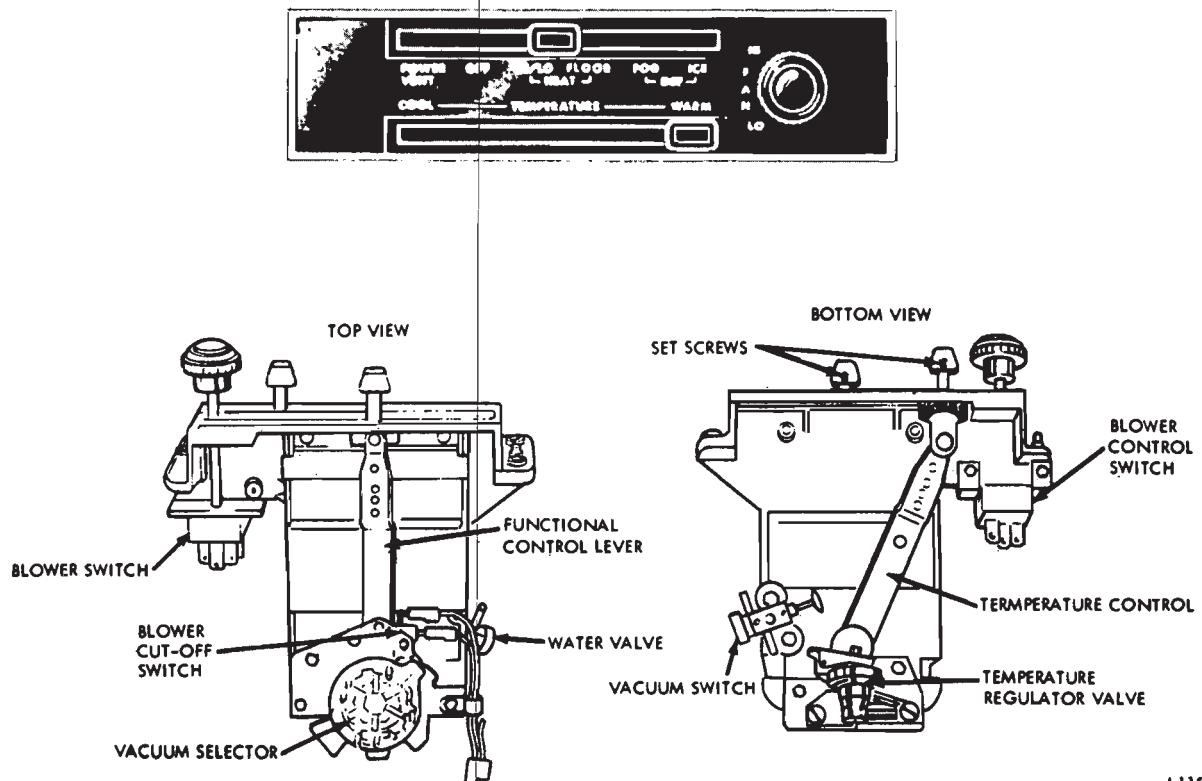

FIG. 9—Standard Heater Control Assembly—Lincoln Continental
1. The functional control lever (upper lever, Fig. 9) actuates a vacuum selector that controls vacuum motors at the Outside Air Door (1), vent/heat door (6) and heat/defrost door (7). In the OFF position, a micro switch (blower cut-off switch) adjacent to the vacuum selector is activated by the selector cam plate to turn off the blower. The blower is on in all other control positions and the four blower speeds are controlled by the electrical circuit through the resistors in the blower resistor assembly located on the front of the heater case assembly.